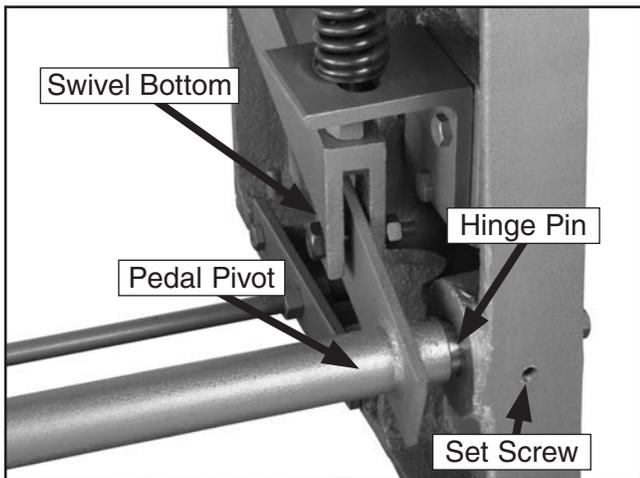

Figure 8. Foot pedal assembly.
5. When complete, the finished assembly should look like **Figure 8**.